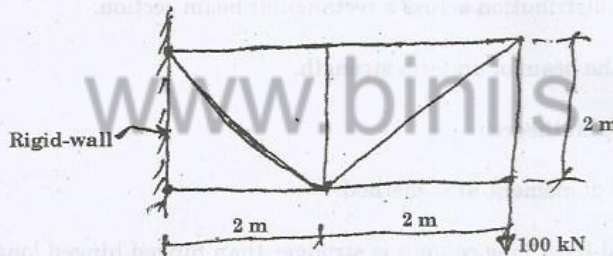

Figure 2
- b) Analyze the plane-truss shown in Fig. 2, by method of sections and tabulate the member forces. (3+7+3)